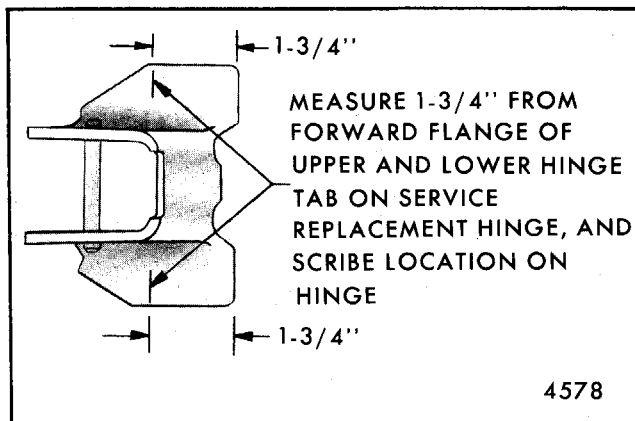

Fig. 5-97-Body Side Hinge Strap Installation - "X" Styles
1. Measure 1-3/4" rearward from upper and lower weld tab forward flange of replacement hinge, and mark dimension on hinge as shown in Figure 5-97.